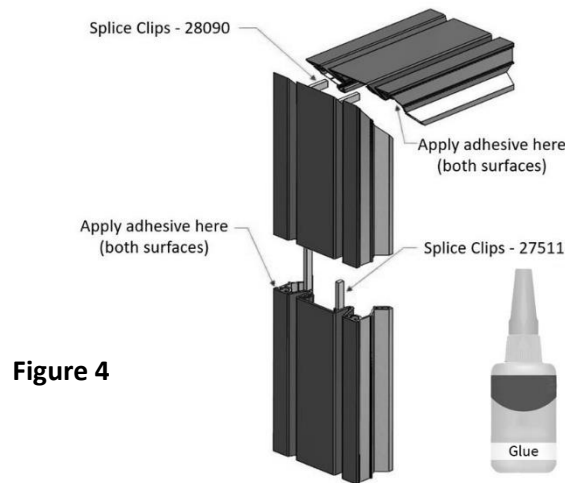

Figure 4
Note: the quantity of mullions is defined by the size of the EJ System, check your shop drawings for the required amount, then install as shown in **Figure 4**. Care must be taken to keep front faces aligned with aluminum extrusions installed in Step 2.
- Next gently install the mullions into the longest bolts in the pantograph mechanism. Note: the quantity of mullions is defined by the size of the EJ System, check your shop drawings for the required amount, then install as shown in **Figure 4**. Care must be taken to keep front faces aligned with aluminum extrusions installed in Step 2.
Insert splice clips (if required) (part # 28090) halfway into the alignment holes on one of the seals. Apply glue, cyanoacrylate or similar adhesive (by others) to both seal ends and follow instructions by the adhesive manufacturer. Almost immediately after adhesive is applied, insert the protruding ends of the splice clips into the ends of the two seals together, applying uniform pressure for at least two minutes while maintaining contact between both sides. The splice clip is not necessary, but is recommended, especially on larger sized seals. **See Figure 4**